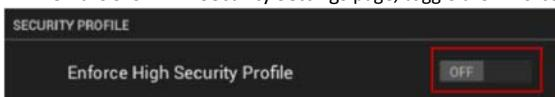

FIG. 95 SECURITY PROFILE - Enforce High Security Profile option
1. On the SYSTEM > Security Settings page, toggle the **Enforce High Security Profile** option to **ON** (FIG. 95):